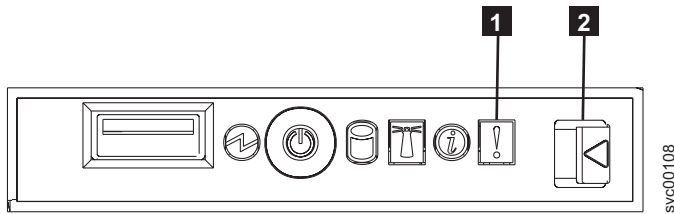

Figure 218. SAN Volume Controller 2145-8F4 operator-information panel
5. Press the operator-information panel release latch (**2** in Figure 218 on page 221) and slide the operator-information panel away from the SAN Volume Controller 2145-8F2.